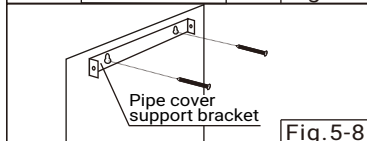

Fig.5-8
11. Insert 2 wall plugs and fix support bracket to the wall using 2 screws. (Fig. 5-8)